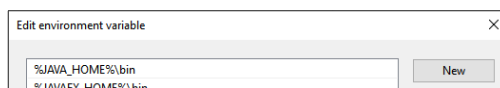

Figure 14. Editing environment variables in Windows
- c. Double click on the "Path" user variable and add the lines %JAVA\_HOME%\bin and %JAVAFX\_HOME%\bin, by clicking on the "New" button, as shown in Figure 14.